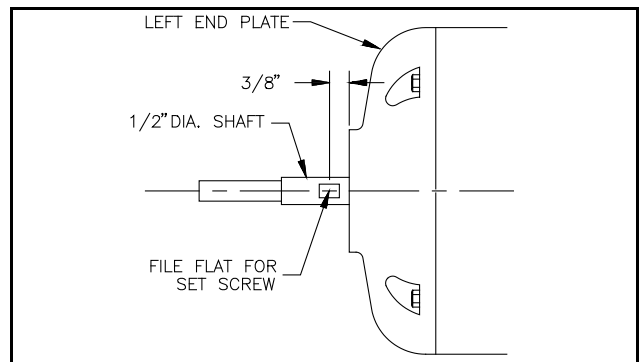

Figure 5. Flat for set screw
- 3.7 **IMPORTANT:** A flat must be filed on the shaft where the clutch set screw contacts the shaft. If this is not done, the set screw will raise a burr on the shaft and it will be very difficult to remove the clutch. File a flat on the right shaft about 3/8" from the end plate. See Figure 5.
- 7.1.4 Before assembly, make sure a flat for the set screw has been filed. See Figure 5. Use emery cloth to remove burrs and high spots from the 1/2" shaft. Make sure that the clutch will slide freely onto the shaft all the way to the bearing without binding. Tighten the set screw onto the flat when installing the clutch.